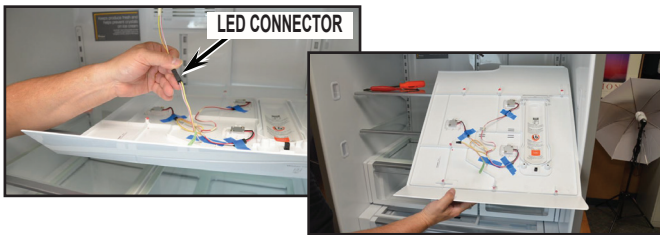

FIGURE 8
10. To remove the water reservoir cover, slide it forward and disconnect LED lighting connector. See *Figure 8*.